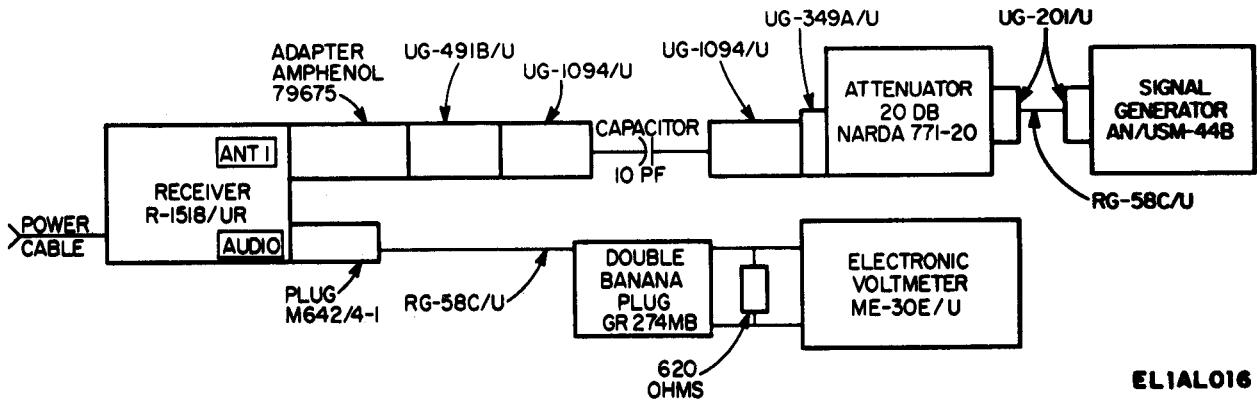

Figure 6-8. AM whip sensitivity test connections.
- (1) Perform a (1) above.
- (2) Connect the test equipment as shown in figure 6-8.